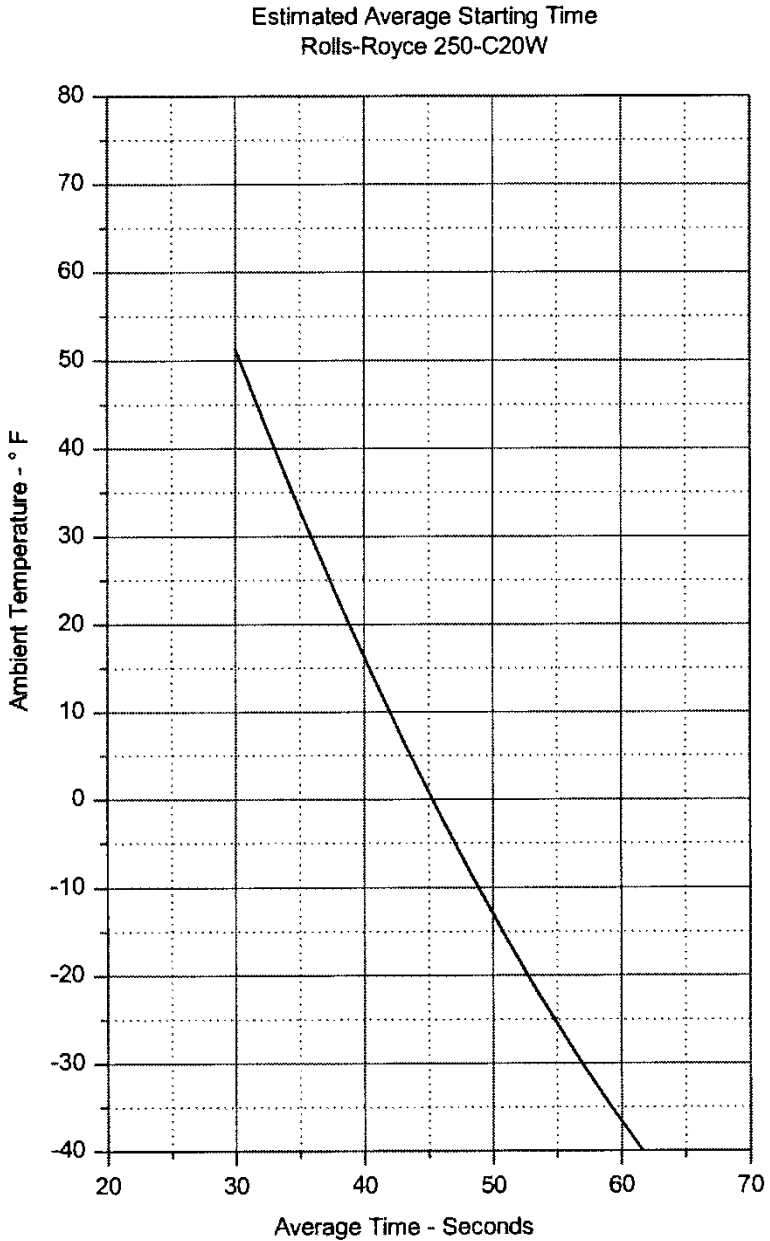

Figure 9-1. Average Engine Starting Time
1. Acceleration Time. The engine should start and accelerate to idle within the times shown in Figure 9-1. If the start time becomes significantly longer than those shown in Figure 9-1, consult maintenance personnel.